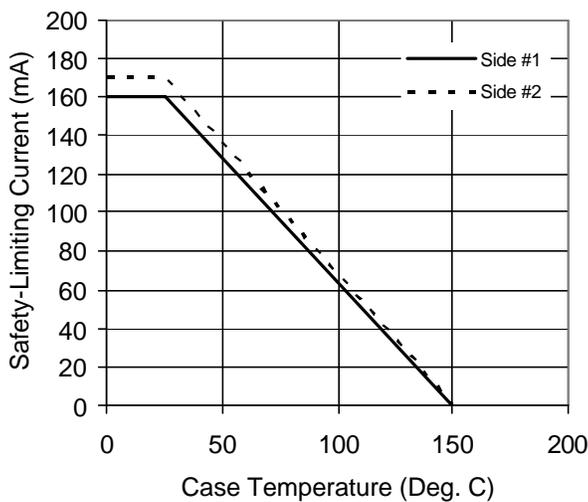

Figure 3. Thermal Derating Curve, Dependence of Safety Limiting Values with Case Temperature per DIN EN 60747-5-2
- ³ See Figure 3 for maximum rated current values for various temperatures.